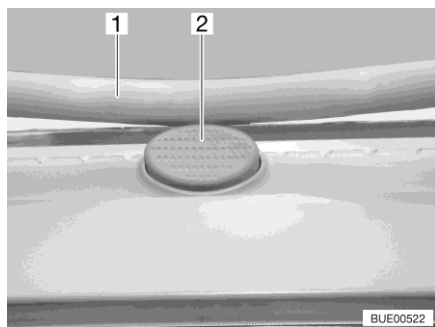

Fig. 94 Safety knob (Heki skylight)
- Press the safety knob (Fig. 94,2) and pull the bar (Fig. 94,1) down with both hands.
- Push the bar upwards with both hands until it is above the safety knob (Fig. 94,2).